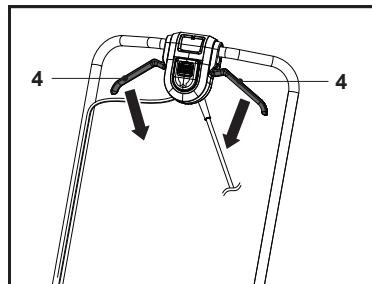

Fig. 16
Release the start levers (4) to stop the motor and cutting blade (23) (Fig. 16).